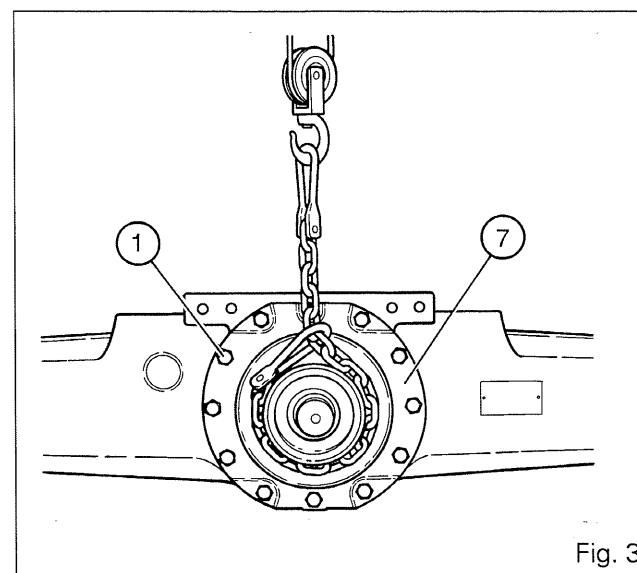

Fig. 3
10. Remove the bolts (1). Detach and remove the differential case assembly (7) (Fig. 3). If necessary, remove the deflector (46).